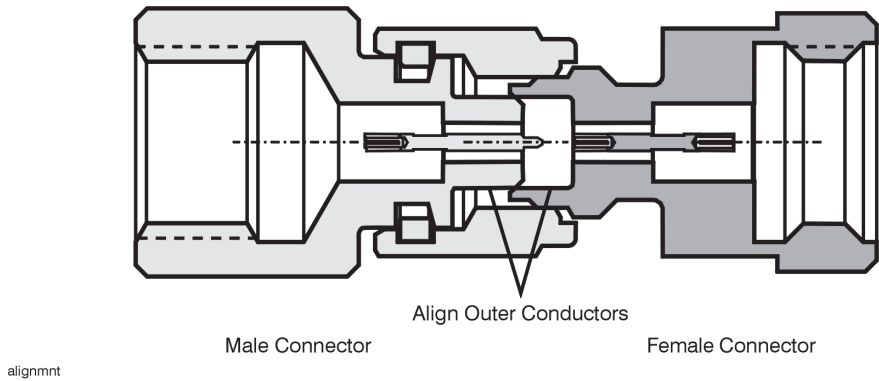
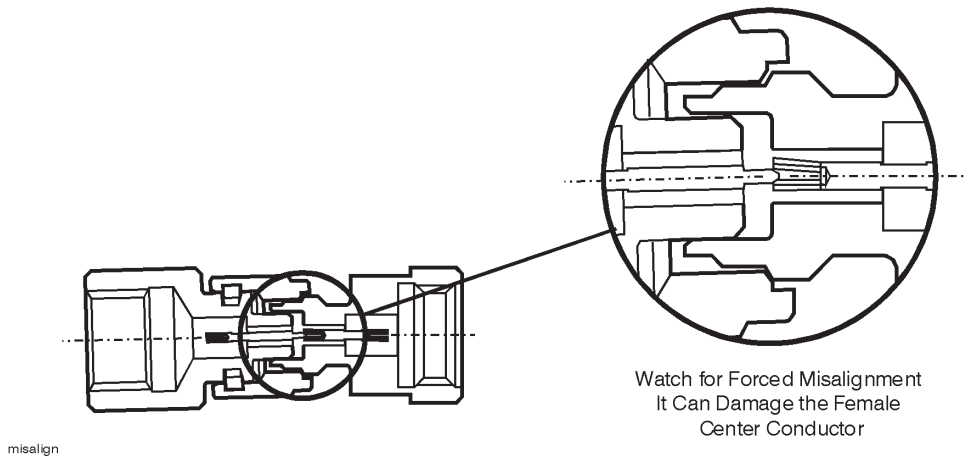

Figure 3-5 Alignment
Figure 3-6 Forced Misalignment
If one of the 1.0 mm connectors is free to move, this will make it possible for the connectors to self-align during connection. Self-alignment occurs because outer conductors engage before the center conductors (see Figure 3-5 and Figure 3-6).
NOTE To achieve misalignment as shown in Figure 3-6 you must use *excessive* force.
4. Carefully align the connectors. The male connector center pin must slip concentrically into the contact fingers of the female connector (see Figure 3-5 and Figure 3-6).